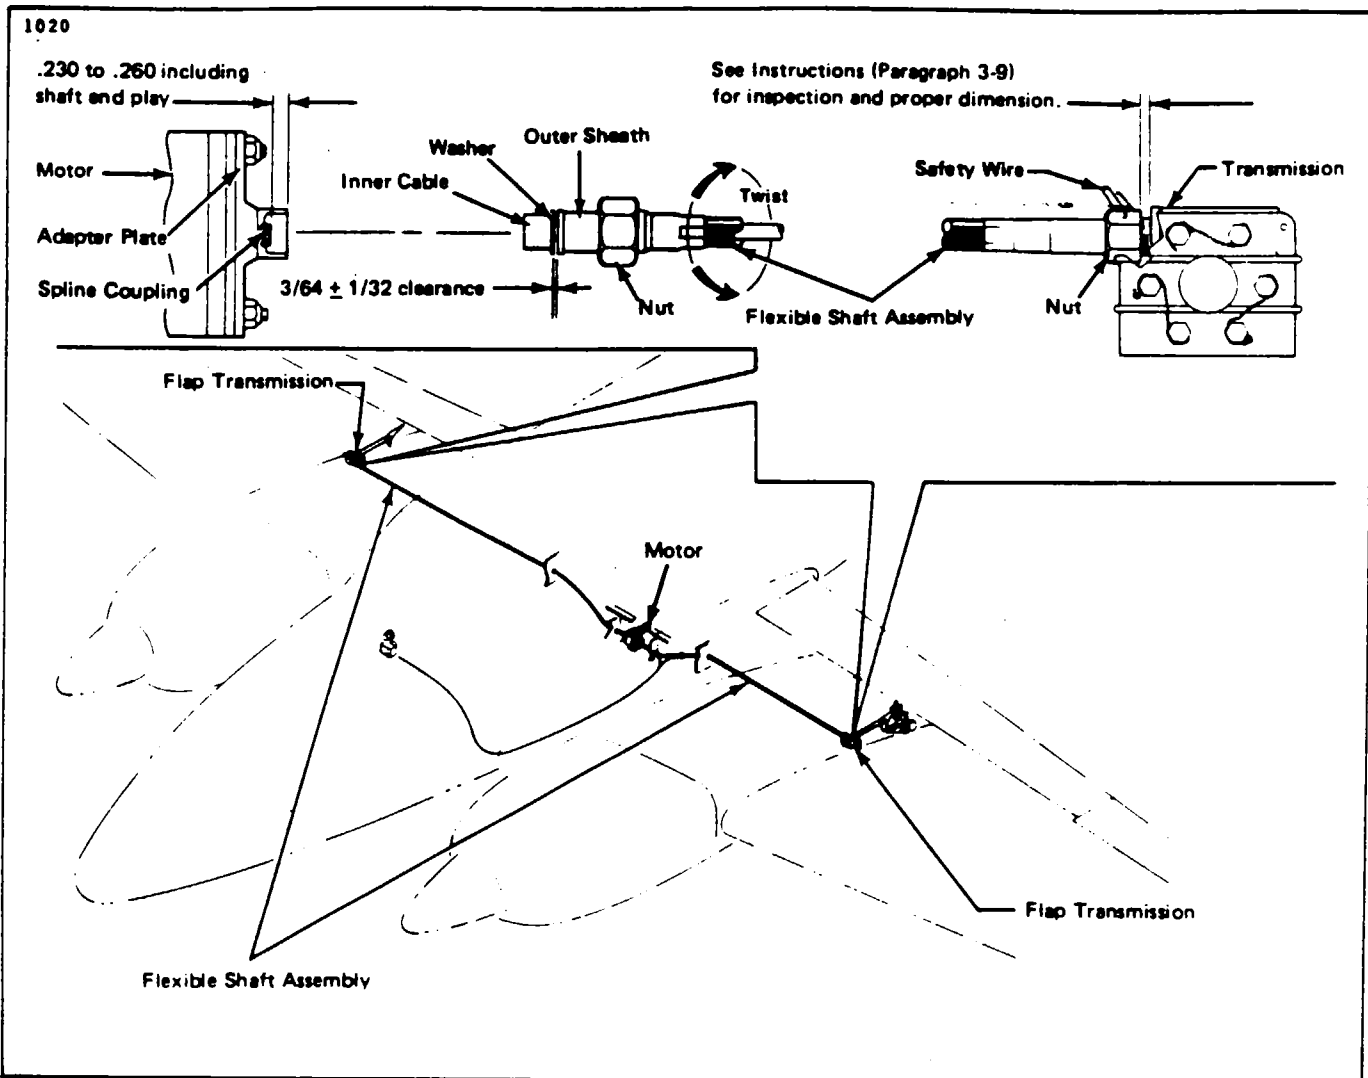

Figure 3-2. Wing Flap Actuator Cable - 100 Hour Inspection
3-9. INSPECTION OF WING FLAP TRANSMISSION ACTUATOR CABLE (Dukes System Only). (Refer to Figure 3-2.)
3-9a. 500 HOUR INSPECTION OF WING FLAP TRANSMISSION ACTUATOR CABLE (Dukes System Only. Aircraft S/N 31-5001 thru 31-7852171). Refer to Figure 3-2 S/B-739
- e. Disconnect the flexible shafts and remove the flap motor. Using caution not to damage the flexible shaft housing, route the flexible shafts outboard through the longitudinal beams. (Refer to Figure 3-2, Sketch 1).
- f. Visually inspect the flexible shaft splined drive coupling and retaining pin for evidence of looseness on the cable swage fitting (Refer to Figure 3-2, View A). If any looseness is apparent, replace the flexible shaft assembly.
1. Expose the swaged portion of the inner cable at the motor end by twisting the outer housing two turns clockwise. The swaged portion of the cable should have six (6), or eight (8), flats clearly visible and free from deep scratches or wear marks.
3. Disconnect the drive shaft from the flap transmission. Using caution not to damage the shaft housing, route inboard through the station 87.50 bulkhead (Refer to Figure 3-2, Sketch 2). Inspect the swaged portion of the drive blade fitting end as described in steps "1" and "2" above.
4. Inspect the drive blade dimension as shown in Figure 3-2, View B.
1. Twist a piece of .032 safety wire around the swaged fitting at the motor end of the drive shaft to form a pointer (Refer to Figure 3-2, Sketch 3). With one end of the flap motor armature shaft secured, engage the opposite end into the flexible shaft spline.
k. Ascertain that the flap motor shaft is centered within the motor adapter housing (Refer to Figure 3-2, View C).